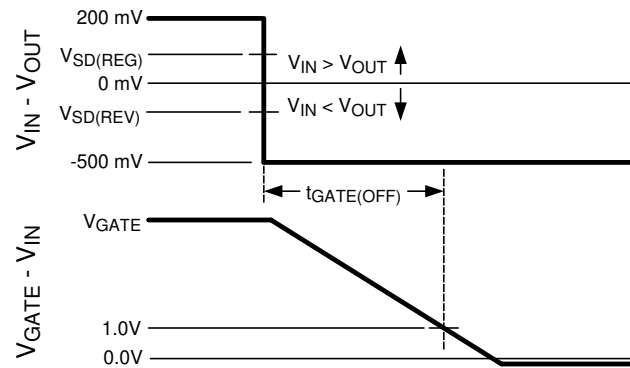

Figure 1. Gate OFF Timing for Forward to Reverse Transition
(2) Time from $V_{IN} - V_{OUT}$ voltage transition from 200 mV to -500 mV until GATE pin voltage falls to $V_{IN} + 1\text{ V}$. See Figure 1.